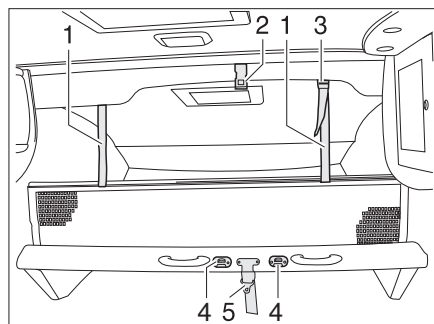

Fig. 151 Manual pull-down bed
- Secure the pull-down bed to the roof (Fig. 151,2) by means of the retaining belt (Fig. 151,5).
Attaching: ■ Hook the access ladder to the pull-down bed by attaching both brackets into the U-bolts (Fig. 151,4).
Setting up: ■ Fasten the retaining straps (Fig. 151,1) to the holders on the ceiling (Fig. 151,2).